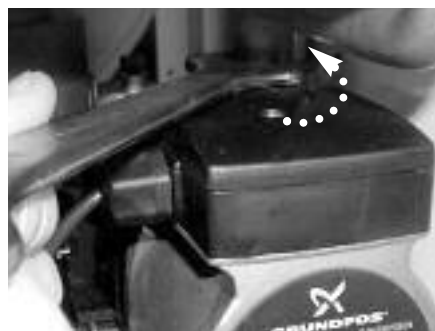

Fig. 93
4. Unscrew the pump nut (see Fig. 93);